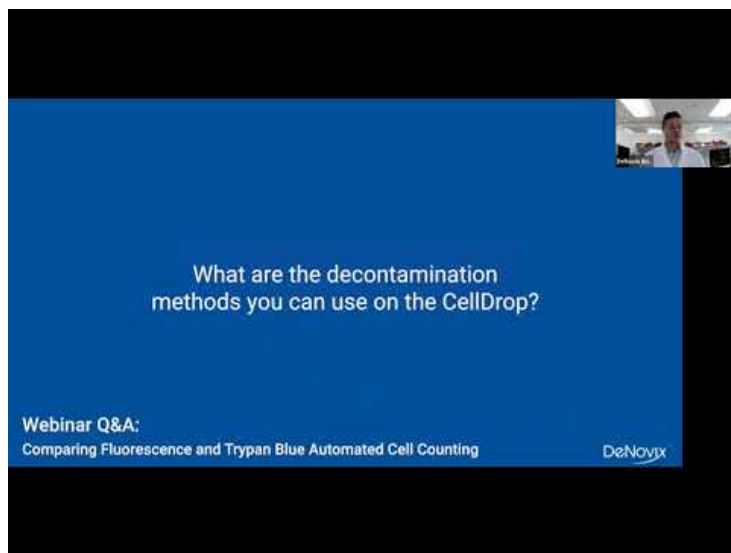

Figure 1.
3. Wipe the lower surface **once with a single, firm stroke** (Figure 1).